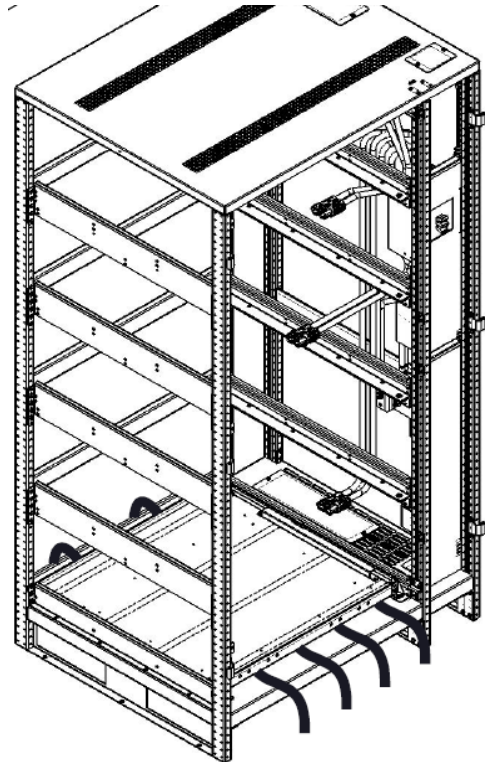

Fig. 6 - straps
Arrange n.4 straps (listed pos.14) as shown in Fig. 6. These will be used to ensure the battery blocks once assembled.